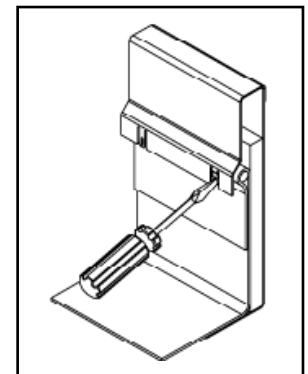

FIG.1
3. Complete the roofing installation in accordance with local building codes. For single ply type roofing, apply adhesive to back side of membrane and along roof hatch curb insulation. Allow at least a 4" fold at top edge. Place a 1" foam backer rod up in membrane and insert under the counterflashing. Press tab feature to provide additional mechanical support to secure membrane. Complete on all four sides. (Fig. 1)